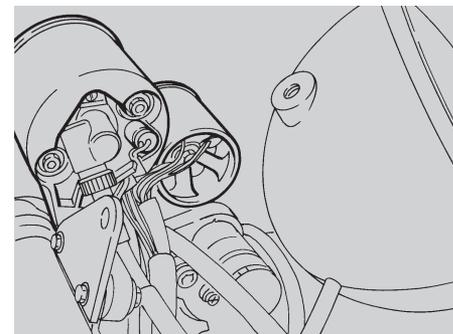

Fig. 64
CHANGING THE DASHBOARD BULBS (Fig. 64)
- ◆ Remove the rubber bulb socket and if necessary change the bulb (1 bulb under the speedometer/odometer, 1 under the coolant temperature indicator, 6 under the warning light dashboard - Fig. 64).